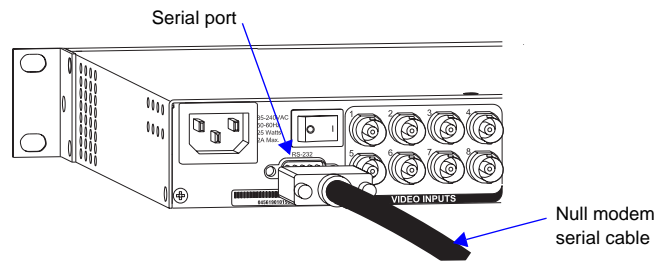

FIG. 11 Connect the null modem cable to the serial port
1. Plug the null modem cable into the serial port on the enclosure (see FIG. 11 top of next column).